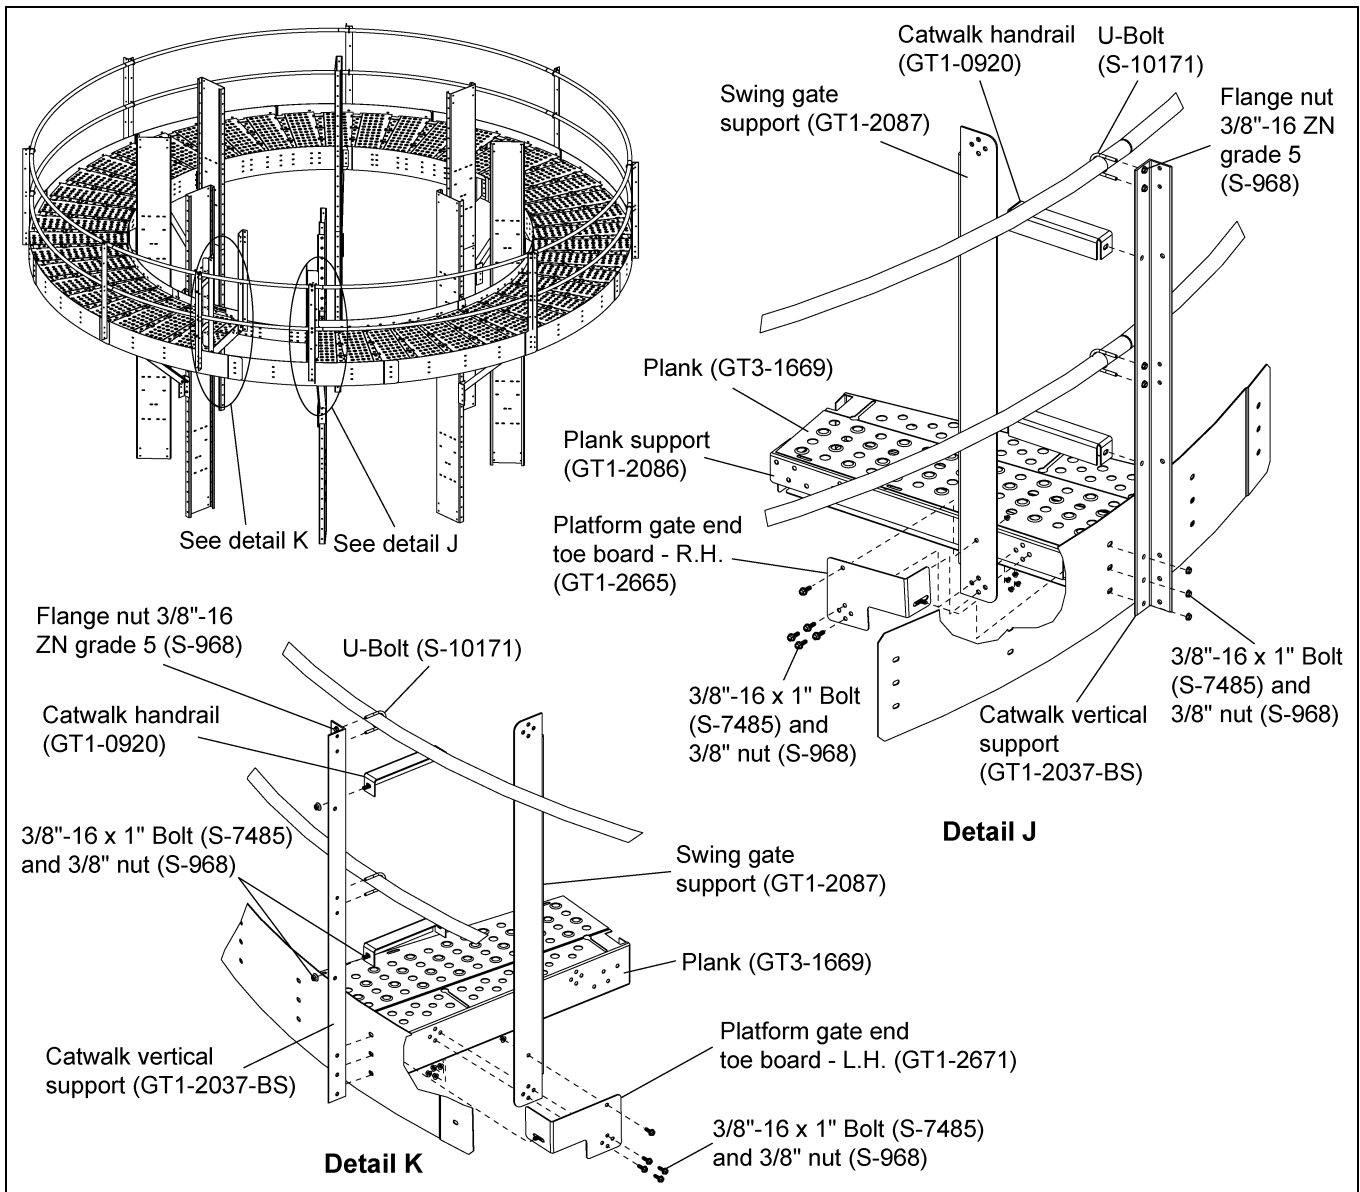

Figure 4W
1. Install the swing gate support (GT1-2087) and the gate end toe board (GT1-2665) to the plank support (GT1-2086) using 3/8"-16 x 1" JS grade 8 or grade 8.2 bolts (S-7485) and 3/8"-16 ZN grade 5 nuts (S-968). (See detail J in Figure 4W.)
2. Install two (2) catwalk handrails (GT1-0920) between the swing gate support (GT1-2087) and the catwalk vertical support (GT1-2037-BS) using 3/8"-16 x 1" JS grade 8 or grade 8.2 bolts (S-7485) and 3/8"-16 ZN grade 5 nuts (S-968). (See detail J in Figure 4W.)
3. On the other side, install the swing gate support (GT1-2087) and the gate end toe board (GT1-2671) to the plank (GT3-1669) using 3/8"-16 x 1" JS grade 8 or grade 8.2 bolts (S-7485) and 3/8"-16 ZN grade 5 nuts (S-968). (See detail K in Figure 4W.)
4. Install two (2) catwalk handrails (GT1-0920) between the swing gate support (GT1-2087) and the catwalk vertical support (GT1-2037-BS) using 3/8"-16 x 1" JS grade 8 or grade 8.2 bolts (S-7485) and 3/8"-16 ZN grade 5 nuts (S-968). (See detail K in Figure 4W.)